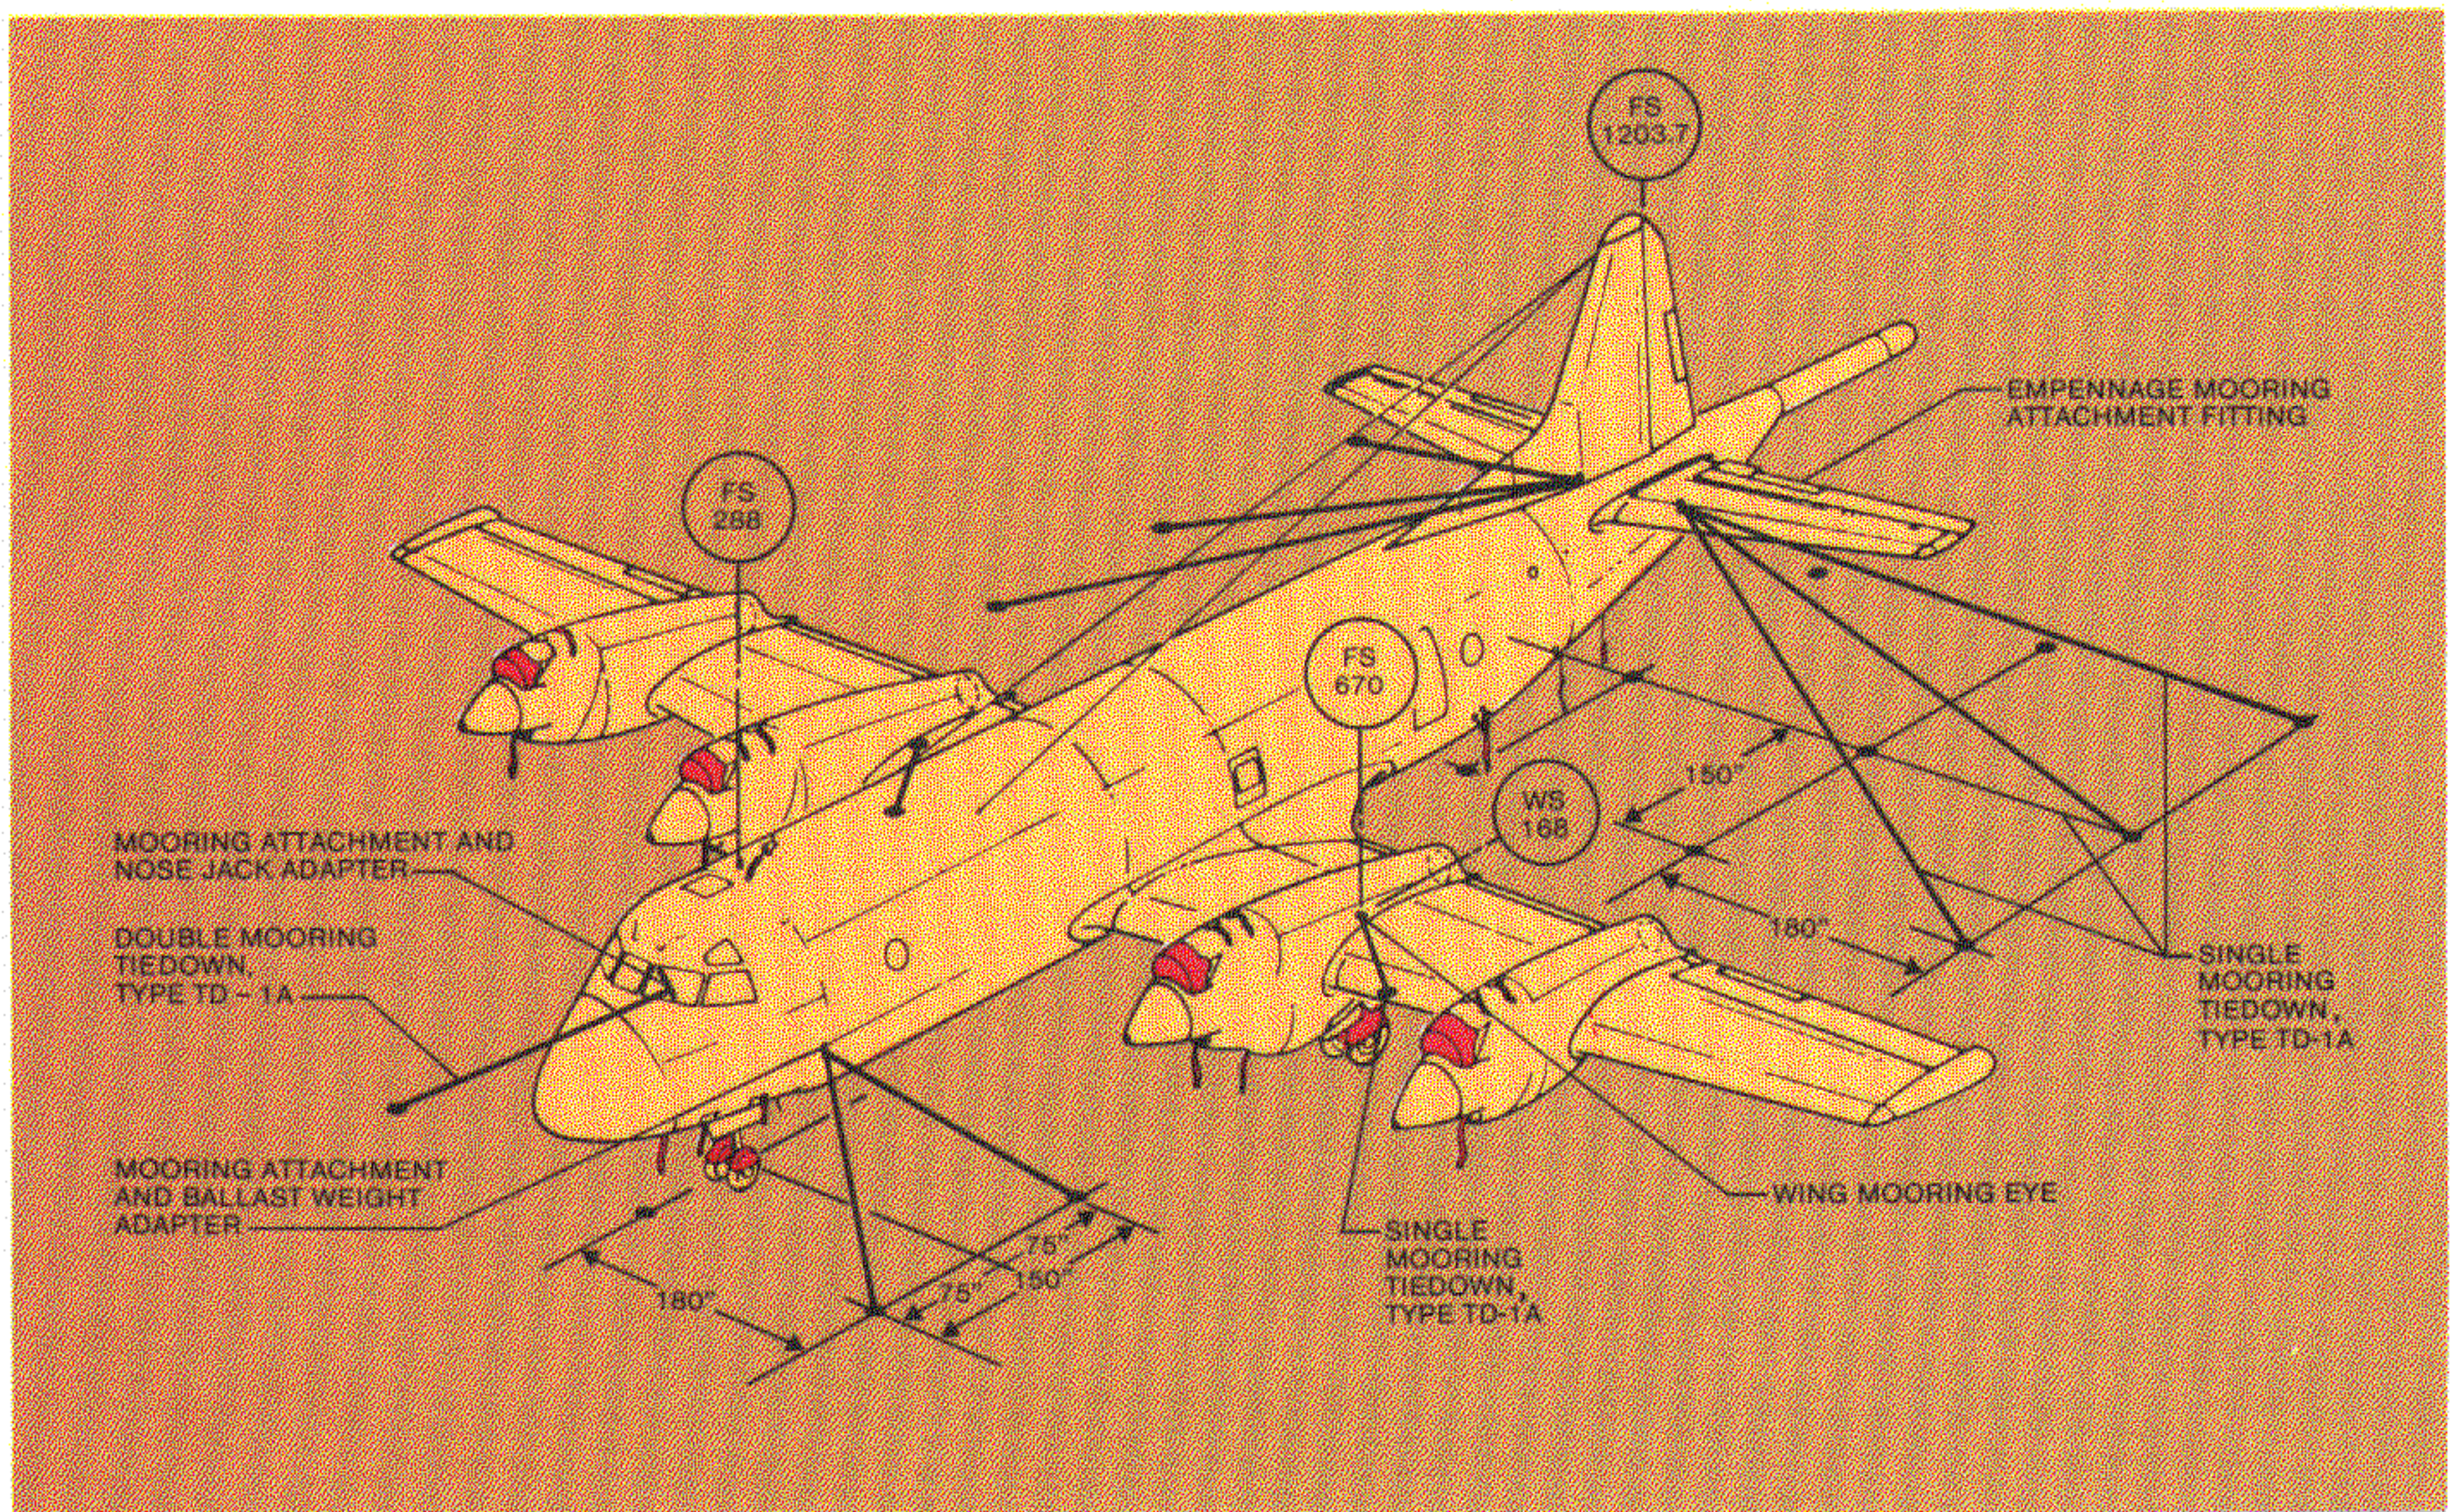

Figure 8. Mooring for Wind Velocities from 60 to 100 Knots
- Under all conditions when the wind velocity is from 60 to 100 knots from any direction, use a double-point tie-down at both the nose left and right mooring fittings, a one-point tie-down at each wing mooring eye, a three-point tie-down at the empennage left and right mooring fittings, and ensure the control surface boosters are engaged. See Figure 8.